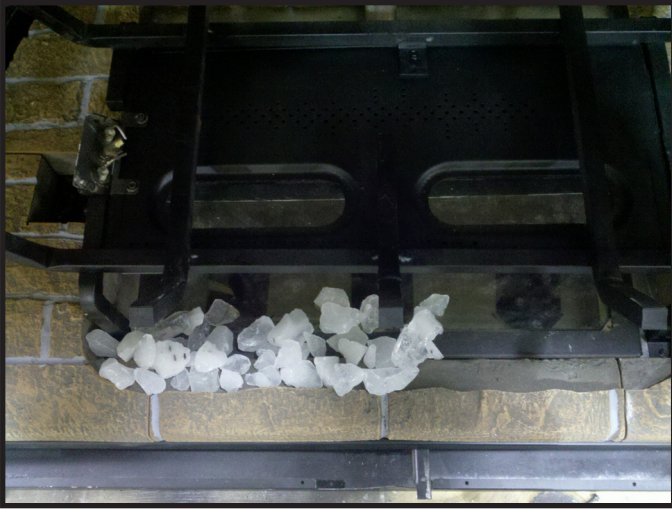

Figure 11.19. Install Teco-Sil
1. Install Teco-Sil along front edge of glass as shown in Figure 11.19. Rock should follow contour cutout in the front refractory.